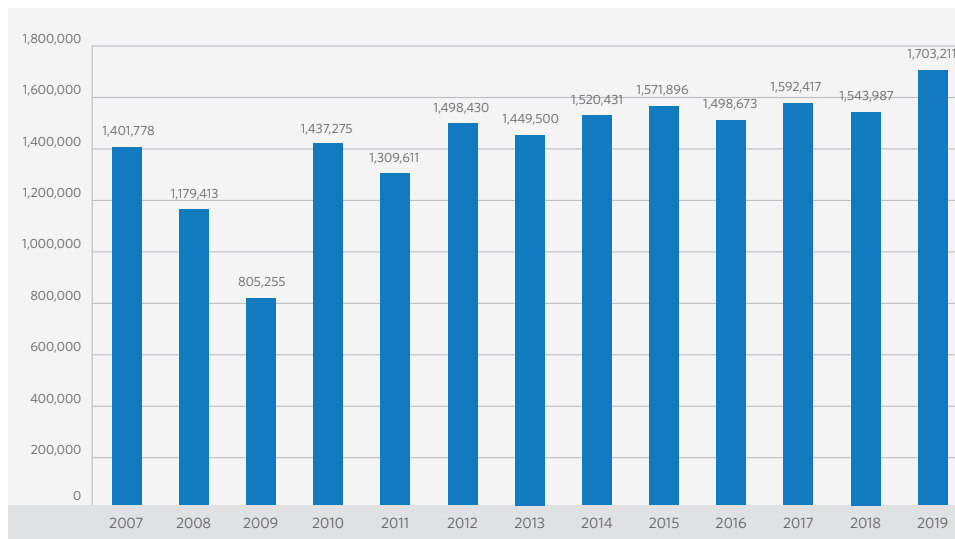

FIGURE 6. Annual CDRI Production (2007-2019)
As a result of the cooperative efforts of the Nu-Iron DRET Team and Process Engineering Team and the Midrex RPS Team, production in 2019 reached an all-time high (*see Figure 6, next page*) and several availability records were set.
- Producing more than 1.7 million tons of CDRI (Figure 6)